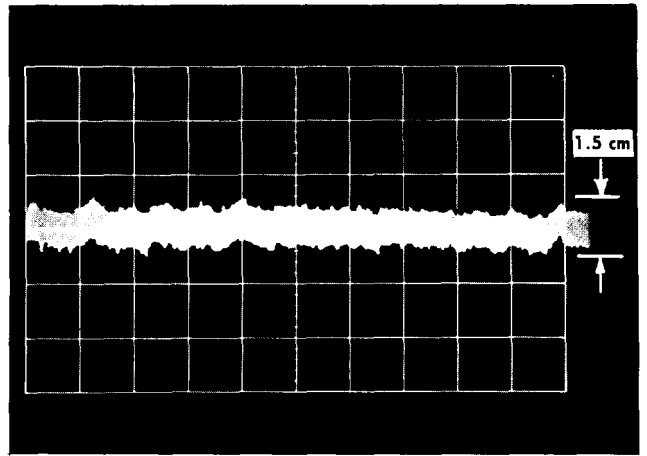

Fig. 6-15. Maximum random trace shift at 5 sec/cm, stored.
- Check stored display for ≤ 1.5 centimeters peak to peak. See Fig. 6-15.